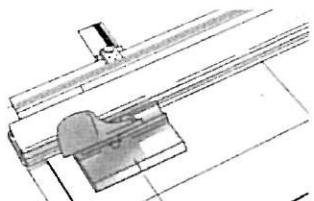

fig. 4
1. After marking out the mat, attach the cutting head onto the cutting rule (fig. 4). The mat should be under the rule, face down and up against the Border Width Back Stop which has been set to the size you wish to cut the borders.
4. Apply strips of double sided tape to the back of the mat, plus an extra piece in the centre of the drop out. Peel off the silicone release, then attach the bottom mat (white) face down to the back of the top mat (fig. 4).